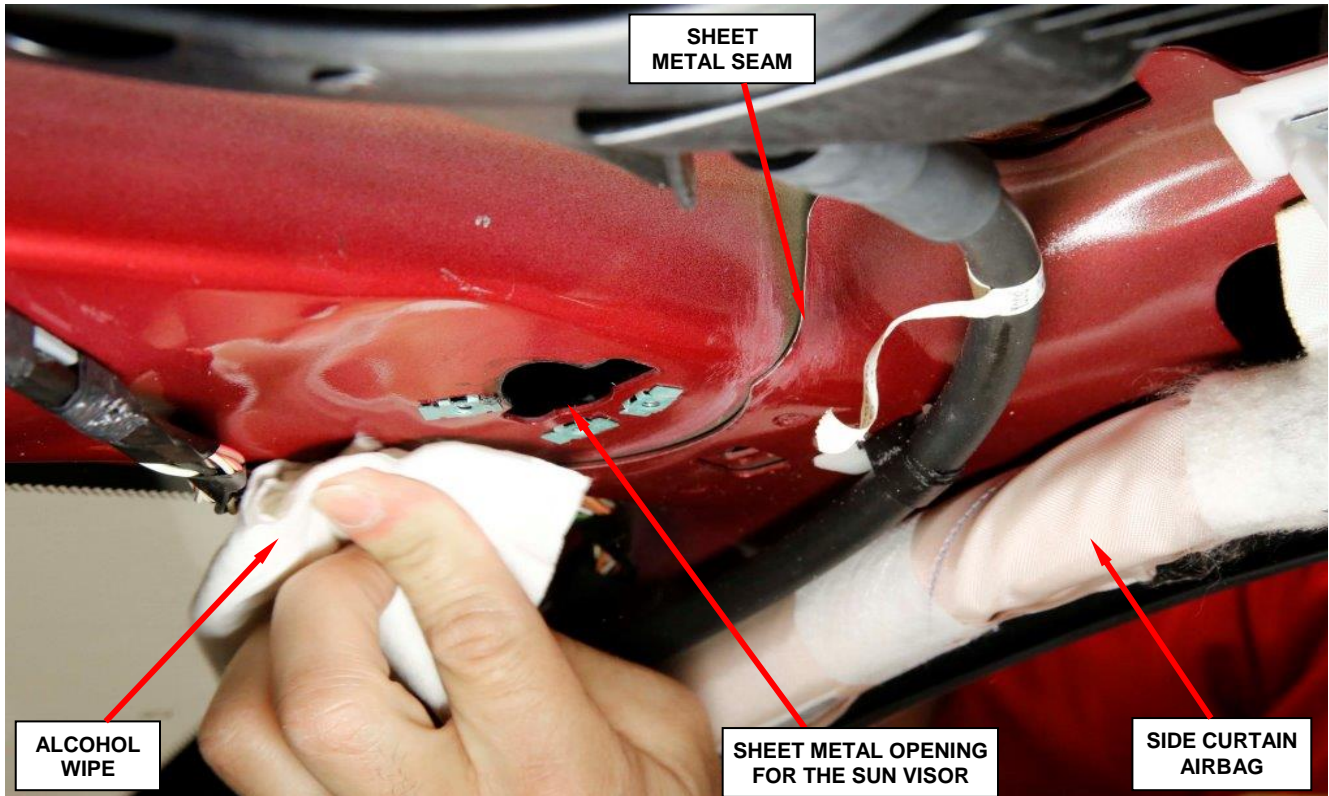

Figure 17 – Clean Seams with Alcohol Wipe (right side shown)
43. Clean the sheet metal edge with an alcohol wipe to remove any dust and/or debris (Figure 17).